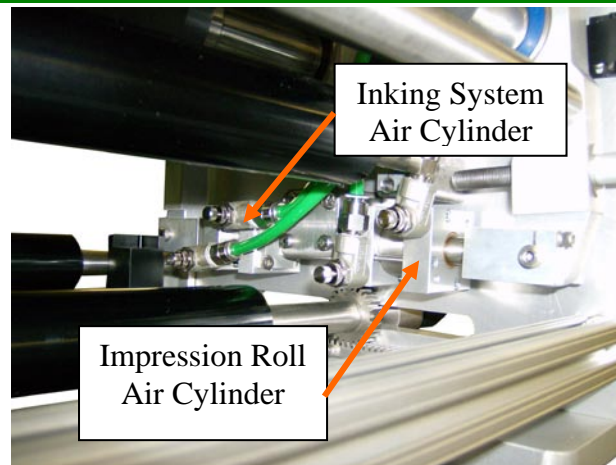

Figure E3-2: Flow Controls
2. Confirm that the flow controls for the Impression Roll air cylinder(s) are not excessively restricting airflow (See Figure E3-2)